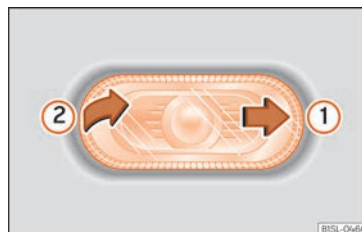
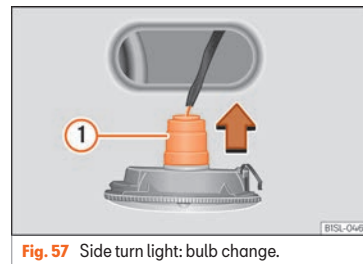

Fig. 56 Removing the side turn signal
Fig. 57 Side turn light: bulb change.
- With one hand move the side turn signal backwards » **Fig. 56 ①**.
- Remove the side turn signal from the chassis by leverage **②**.
- Remove the bulb holder with the bulb in the direction of the arrow » **Fig. 57 ①**.